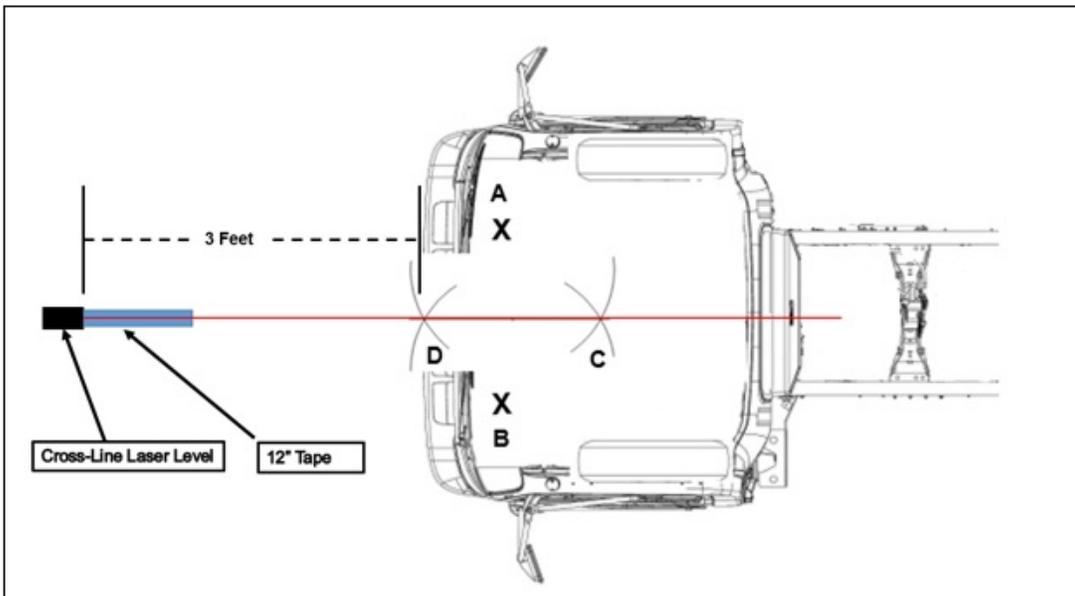

Figure 14
21. From about three feet in front of the vehicle use the Cross-Line Laser Level (Special Tool J-53325) to establish the centerline of the vehicle by placing the tool on the floor, turning it on, and aiming the beam directly through the intersection of both points C and D. (See Figure 14.)
NOTE: When performing Steps 21 – 22, refer to Figure 14.
of the Cross-Line Laser Level. Trace the laser beam line onto the piece of masking tape with a marker pen. (See Figure 14.) This is the Center of the Vehicle reference mark.